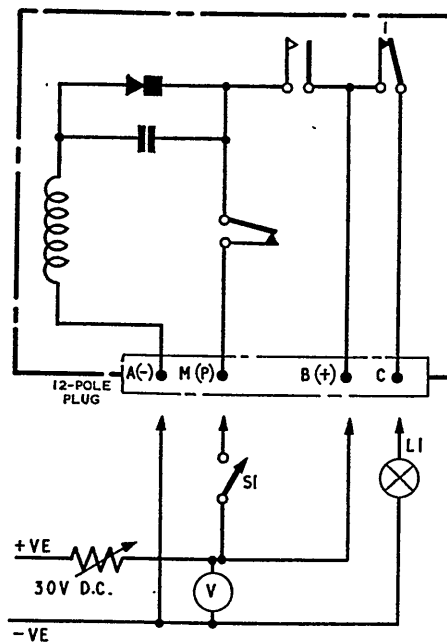

Fig. 1. Switch, Type D8131, circuit diagram and test circuit
1. This time delay switch has three pairs of circuit contacts, the circuit diagram (fig. 1) shows the switch internal wiring and the associated test circuit. The total motor run and circuit contact timing is detailed in para. 3.